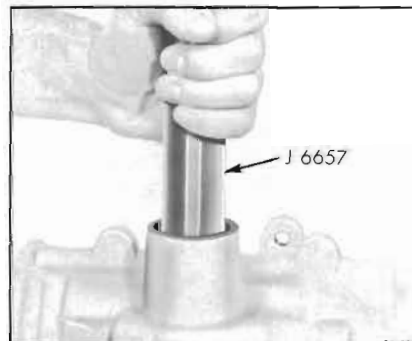

Figure 90-52—Removing Pitman Shaft Needle Bearing
2. Check the pitman shaft needle bearing for wear, pitting, or scoring. If damaged, remove needle bearing from gear housing bore by driving from the seal bore side of housing using Tool J-6657. See Figure 90-52. Discard bearing.